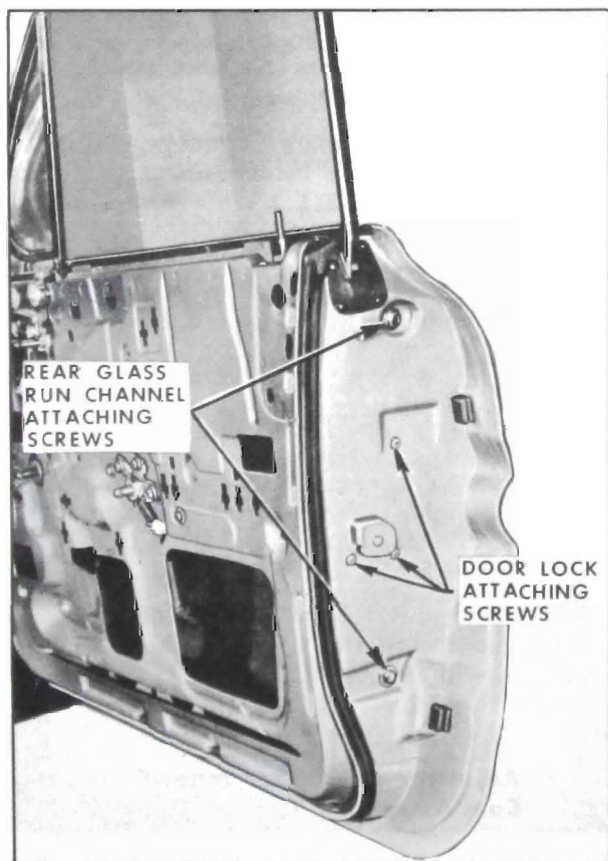

Figure 2-18—Front Door Lock Attachment
4. Remove door lock attaching screws from lock pillar facing of door and remove lock assembly from door (see Figure 2-18).
4. To adjust upper rear of window assembly in or out for proper contact with side roof rail weatherstrip, or to adjust rear of window assembly in or out at belt line, loosen rear glass run channel attaching screws at lock pillar facing of door and screw at top of door inner panel. Position channel in or out as required and tighten screws (see Figure 2-18).
2. Remove two (2) screws securing channel to lock pillar facing of door and screw at upper flange of door inner panel. Then remove channel assembly through large access hole (see Figure 2-18).